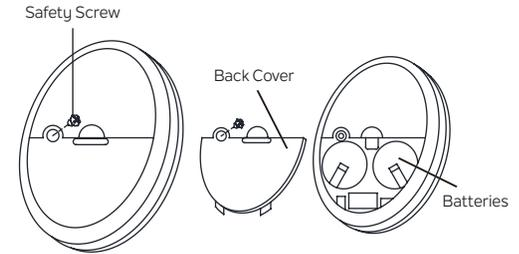

Fig. 20
INSTALLING THE TRANSMITTER BATTERIES (Fig. 20)
Step 1. Remove the back cover of the transmitter and safety screw. (Fig. 20)